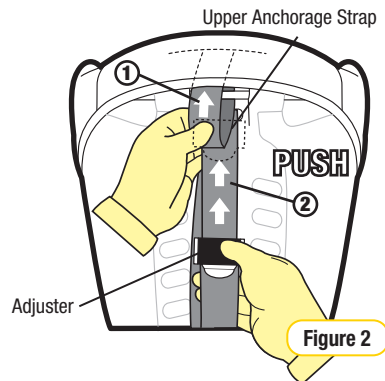

Figure 2
Step 1: Pull excess strap through the top section ① whilst feeding the adjuster section ② towards the seat (see Figure 2).